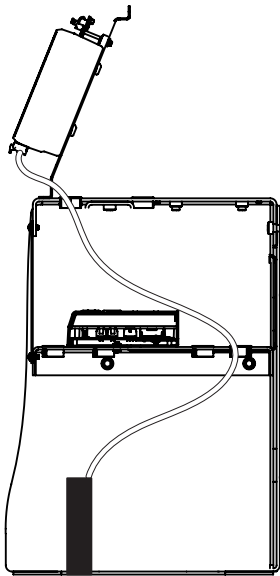

Figure 40. Route Relay Wires
2. Route the relay wires to the SmartCNX Controller (Figure 40).